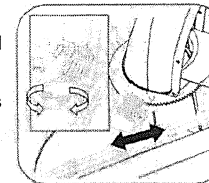

Figure.35
2. Retightening the nuts. See Figure 35.